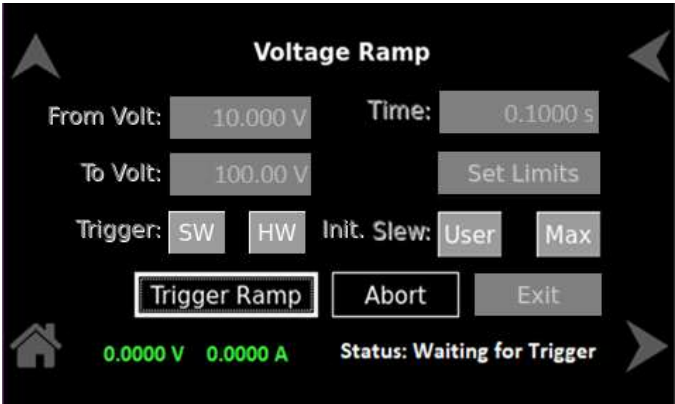

Figure 9-62. Status – Waiting for Trigger
- c) **Waiting for Trigger:** When the system is waiting for the trigger, refer to Figure 9-62.